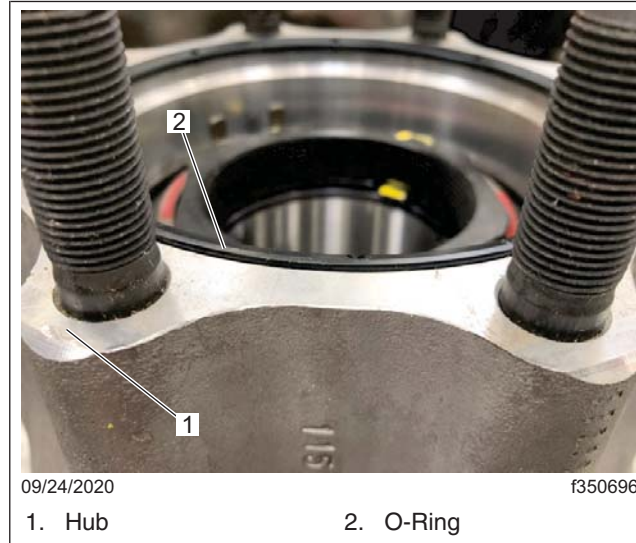

Fig. 2, O-Ring Seating
5. Install the O-ring in the groove. When properly seated, the outer surface of the O-ring should appear slightly outside the hub surface. See **Fig. 2**.